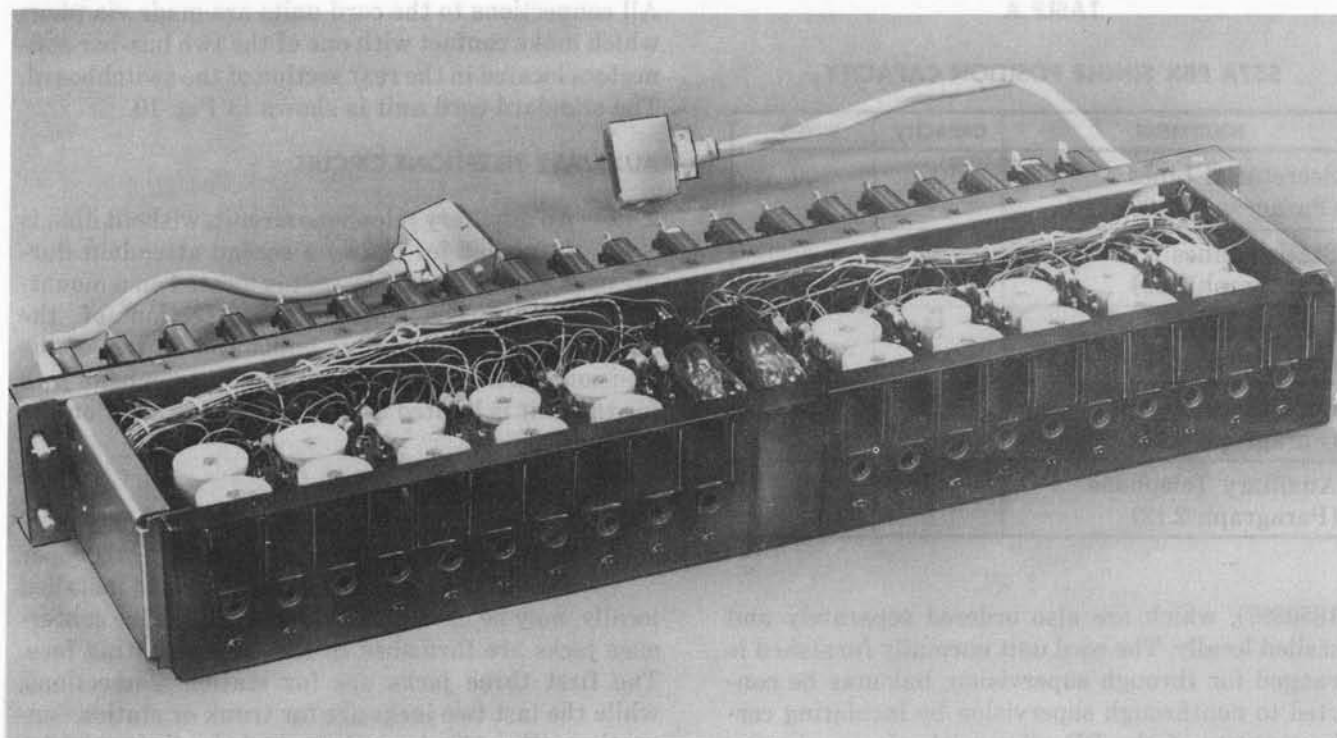

Fig. 4—J59023G-2 Solid-State Secretarial Line Unit
2.07 The solid-state secretarial line equipment (Fig. 4) is furnished in self-contained units of 20 line circuits per unit. These units are equipped with the solid-state YW1 circuit pack (Fig. 5) line units plugged into 912A connectors mounted on the unit. A maximum of five secretarial line units can be mounted on one switchboard position. The YW1 secretarial line unit provides nonlocking line signals with secrecy or nonsecrecy. Secrecy feature prevents the bureau attendant from gaining access to an established subscriber conversation and from making outgoing calls on a secretarial line. To provide the secrecy option, the SW1 screw switch on the YW1 circuit pack should be turned down to a closed position. The solid-state secretarial line unit (Fig. 4) is ordered separately and installed locally. The YW1 circuit pack requires a +5 volt dc power supply in addition to the standard -24 volt dc power supply. Unequipped secretarial line unit spaces in the face of the switchboard shall be covered with line unit blank (comcode 813415833) which is also ordered separately and installed locally. Each secretarial unit is 3-inches high and extends the full width of the switchboard jack panel opening. The secretarial line units are installed and removed from the rear of the switchboard and connected to the outgoing terminal strip through two plugs mounted on each side of the unit and sockets wired to the local switchboard cable. Two plugs, one on each side of the line units, are the power connectors for the +5 volt dc power supply.♦